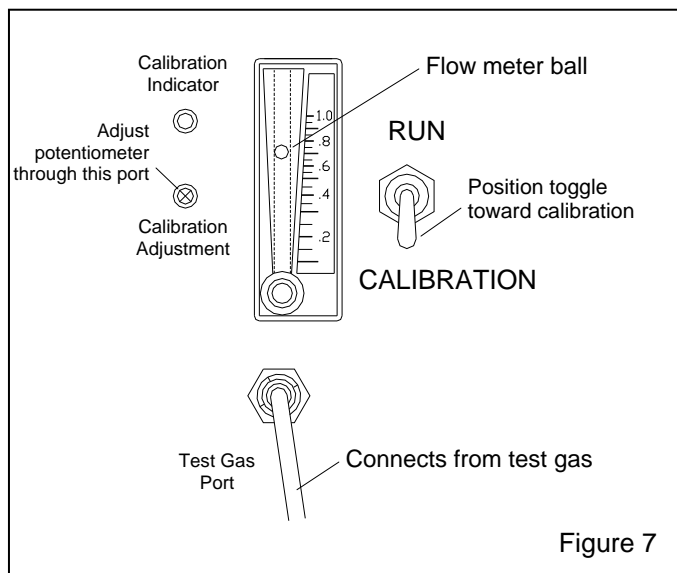

Figure 7
4.5.1 Open the instrument case cover to access the interior faceplate. Take care not to introduce blast environment contaminants into the instrument when the case is open. See Figure 7 for faceplate-calibration testing and calibration callouts.